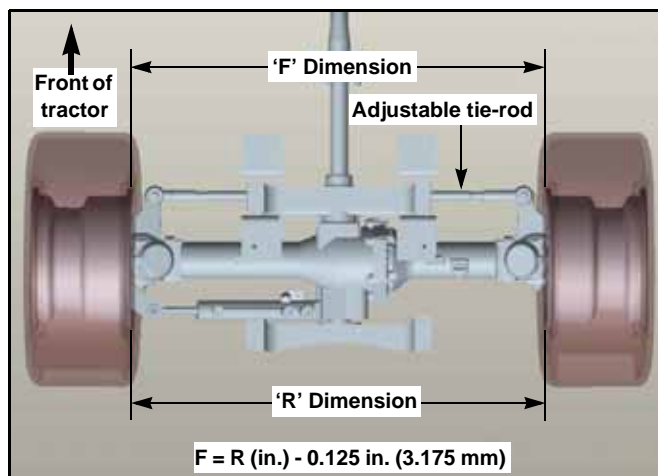

Figure 4-39
3. Measure 'F' and 'R' dimensions: The distance between the inside of the rim edge of the RH wheel to the LH wheel. This measurement needs to be taken at the points on the wheel rims horizontal with the axle center. Figure 4-39